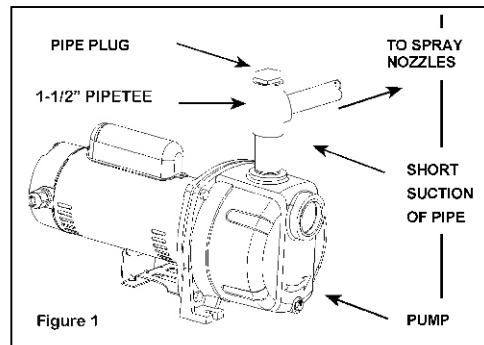

Figure 1
- Install a 1-1/2" pipe tee in the pump discharge to allow easy priming. Plug the end of the tee opposite the pump to allow the branch piping to go to the spray nozzles (Figure 1). Remove the pipe plug to fill the pump with water for priming.